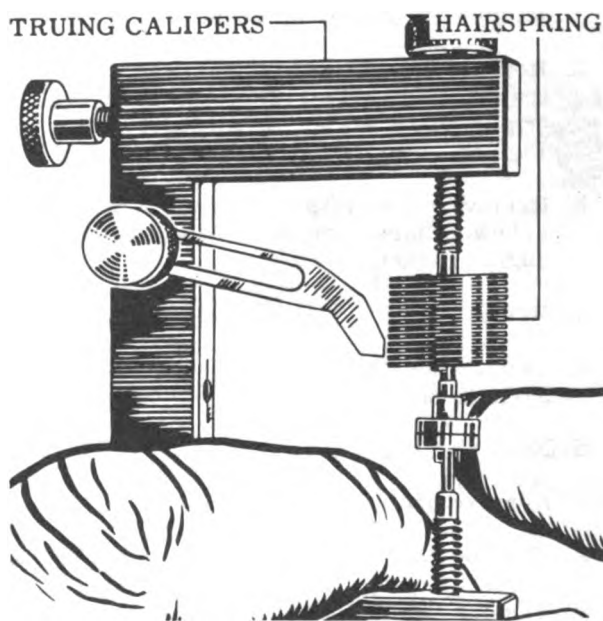

Figure 53
11. True spring in the truing calipers (Tool No. 22), after colleting and before studding. See Fig. 53.